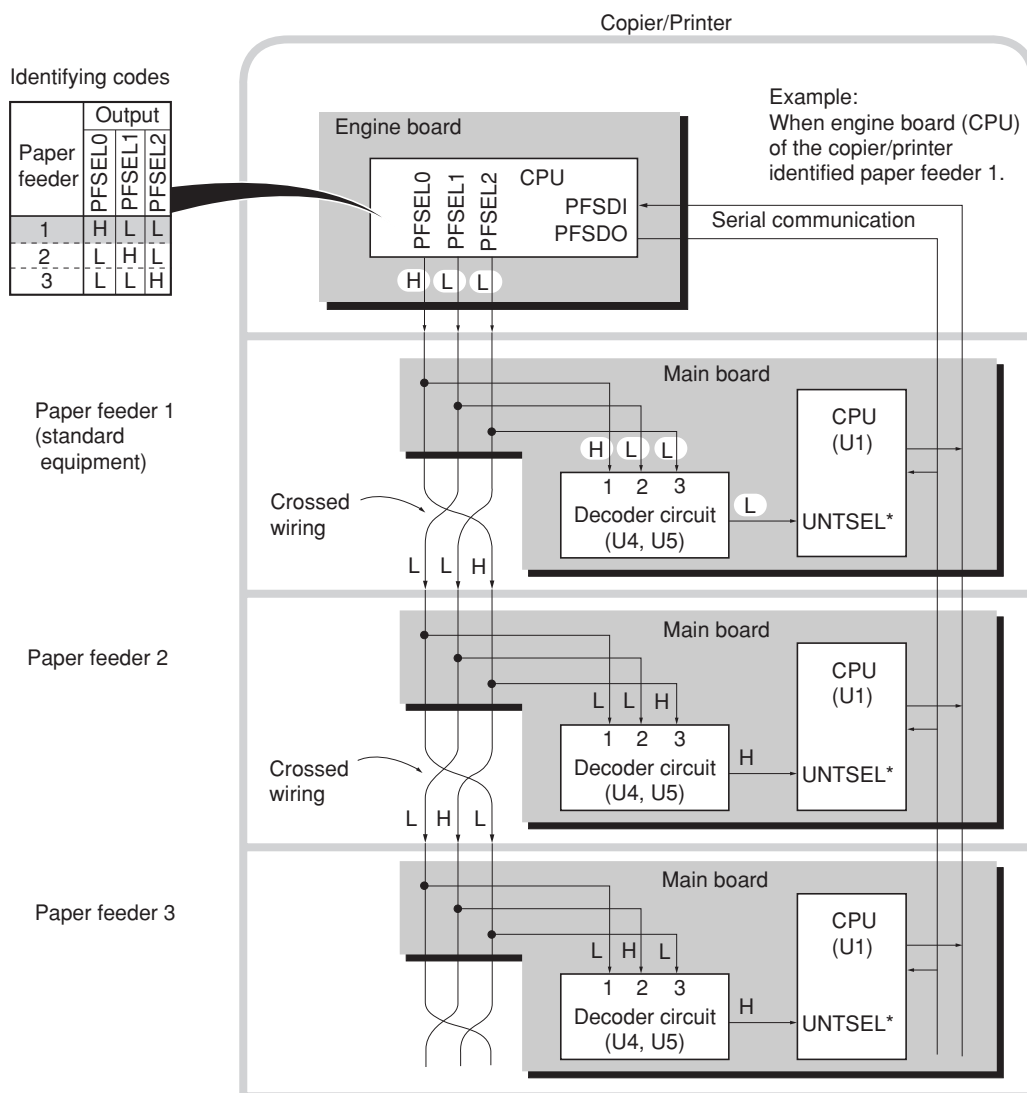

Figure 4-4-9 Paper feeder identifying system
- The decoder circuit is comprised of gate IC's of U4 and U5. See Figure 4-4-9: It decodes the identifying code signals and generates an L-level signal (UNTSEL*) provided that its ports are in the following condition:
- The feeder's CPU (U1, in Figure 4-4-9) receives the L-level UNTSEL* signal, acknowledging itself to be the paper source as requested by the engine CPU of the copier/printer. Using the serial communication manner, the feeder's CPU then responds to the engine CPU of the copier/printer with several information on the properties of the paper currently loaded in the paper cassettes.